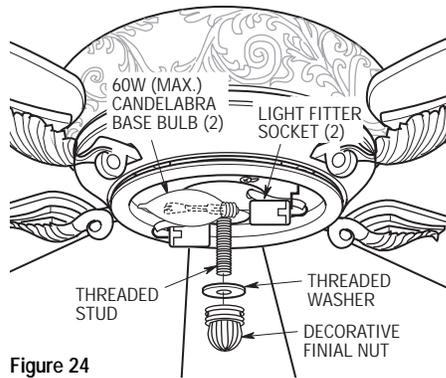

Figure 24
- 1. Install two 60W (maximum) candelabra base bulbs (not supplied) in the sockets of the light fitter assembly (Figure 24).
- 2. Unscrew the decorative finial nut and threaded washer from the light fitter assembly threaded stud (Figure 24).